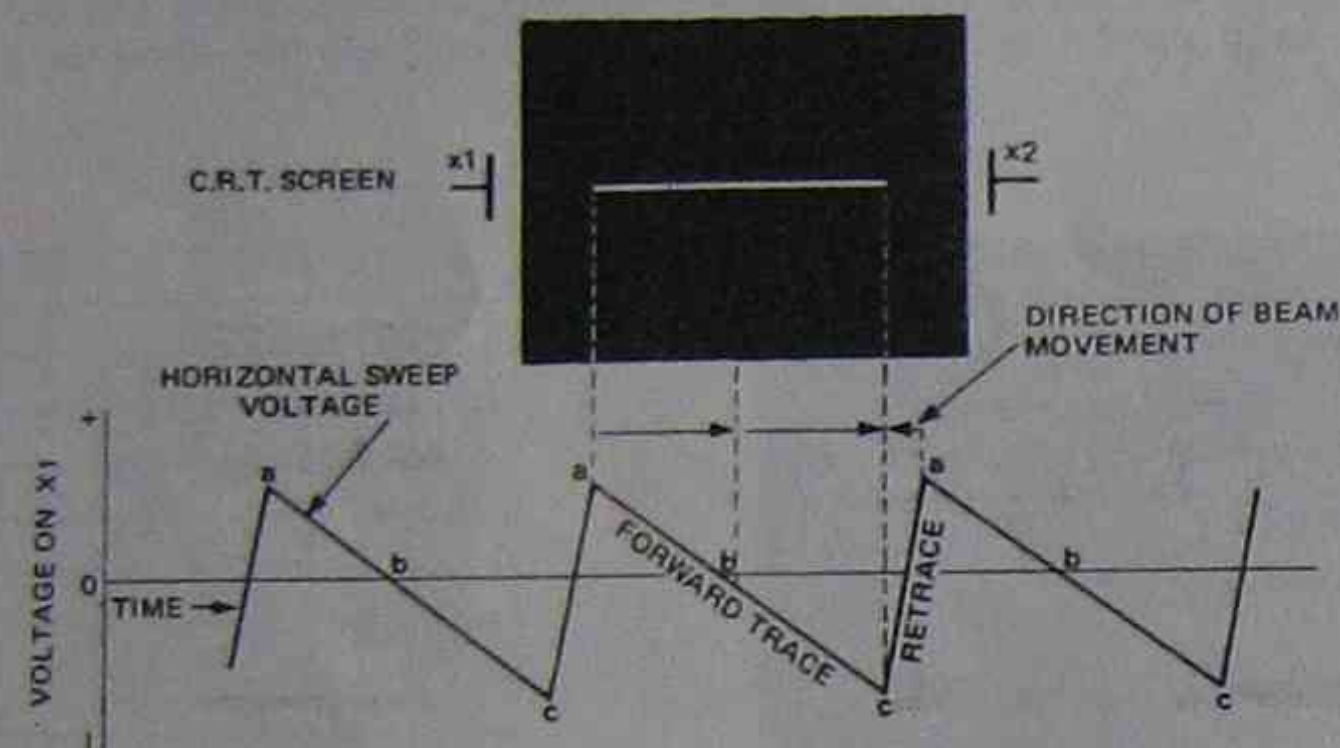

FIG. 13. HORIZONTAL SWEEP.
5.3 HORIZONTAL SWEEP SIGNAL. This signal is applied to the horizontal plates and causes the beam to move from the left side of the screen to the right side at a constant rate and then return as rapidly as possible to the left side, ready to start the next sweep. The fast return of the beam is called the sweep retrace. The horizontal sweep voltage, and the C.R.T. pattern it produces with no voltage applied to the vertical plates, is shown in Fig. 13.
In order to move the spot to the left side of the screen, X_1 must be positive with respect to X_2 and this condition is produced when the sweep voltage is at point 'a' in Fig. 13. Steadily decreasing this potential to zero ('a' to 'b') brings the spot to the centre of the screen. Driving the potential of X_1 negative with respect to X_2 continues the movement of the spot towards the right side of the screen ('b' to 'c'). The rapid change of voltage during the retrace period causes the beam to return quickly from point 'c' to point 'a' ready for the start of the next forward sweep. Provided the horizontal movement of the beam is fast enough, the sweep appears as a continuous line because of the afterglow of the screen coating (phosphor). The length of time this afterglow persists after the spot has moved varies with different coating materials and is called the screen 'persistence' as explained in para. 3.5.
Because the waveshape in Fig. 13 resembles the teeth of a saw it is generally called a 'sawtooth' waveform. Sawtooth signals are produced by a special oscillator called a sweep generator. The output of this generator is generally applied to the horizontal plates, but many oscilloscopes provide facilities to connect other signals to these plates, if required.